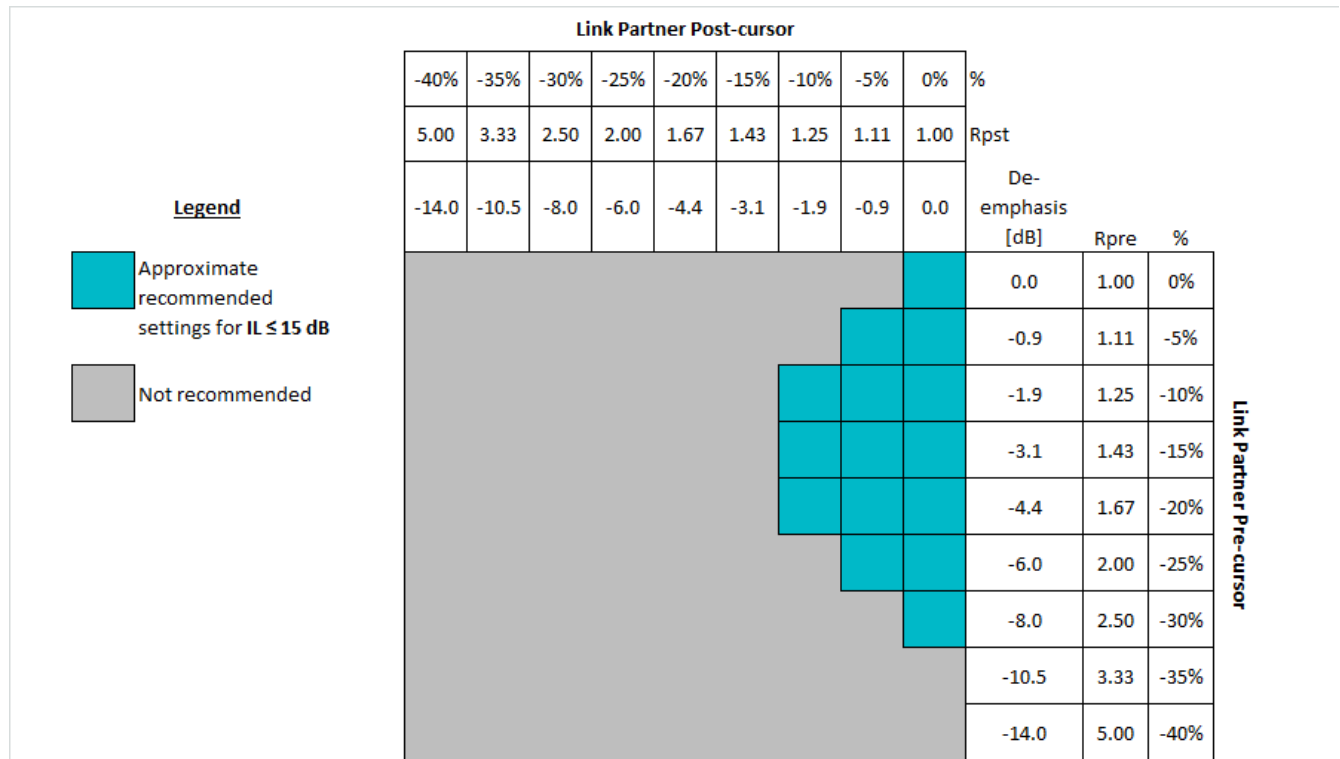
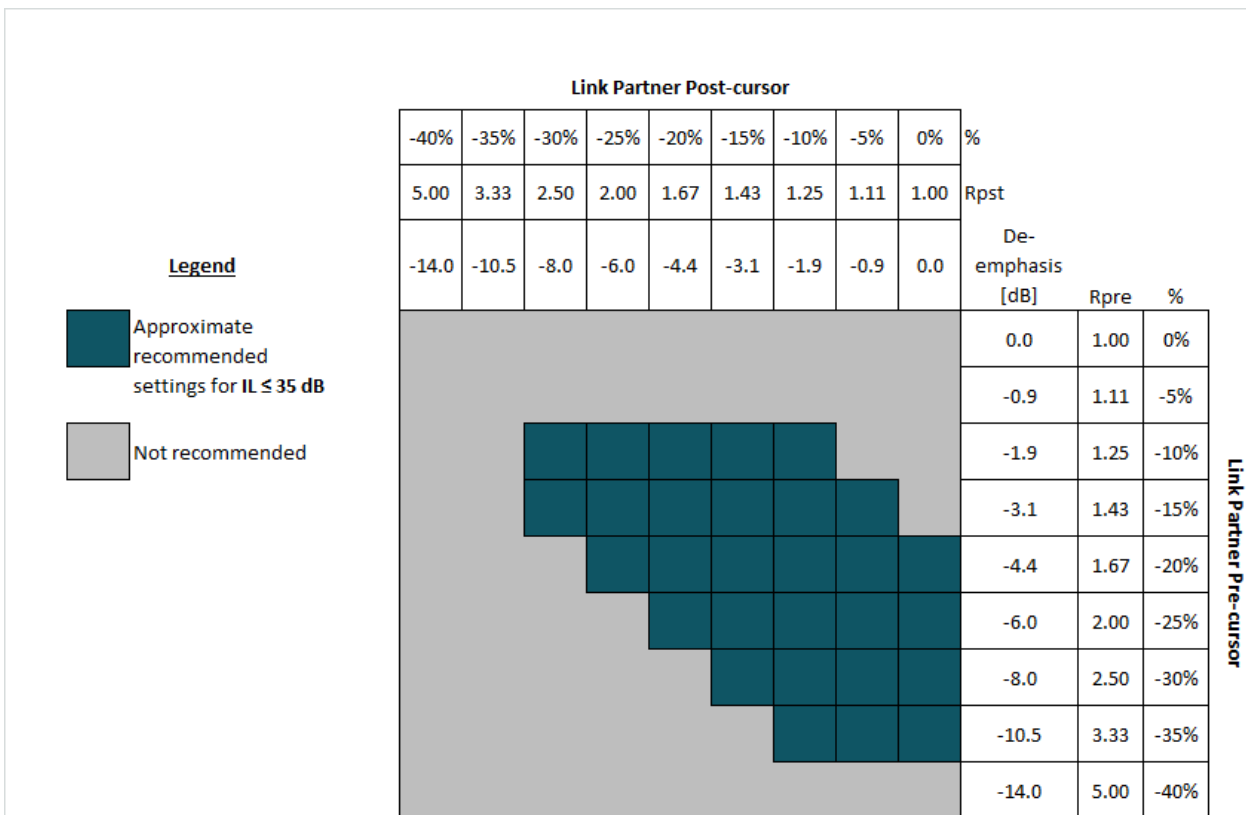

Figure 8-5. Guideline for Link Partner FIR Settings When IL ≤ 15 dB
Figure 8-7. Guideline for Link Partner FIR Settings When IL ≤ 35 dB
The recommended pre-cursor and post-cursor settings for a given channel will depend on the channel characteristics (mainly insertion loss) as well as the equalization capabilities of the downstream receiver. The DS250DF230 receiver, with its highly-capable CTLE and DFE, does not require a significant amount of pre- or post-cursor. The guidelines in Figure 8-5 through Figure 8-7 give general recommendations for pre- and post-cursor for different channel loss conditions. The insertion loss (IL) in these plots refers to the total loss between the link partner transmitter and the DS250DF230 receiver.